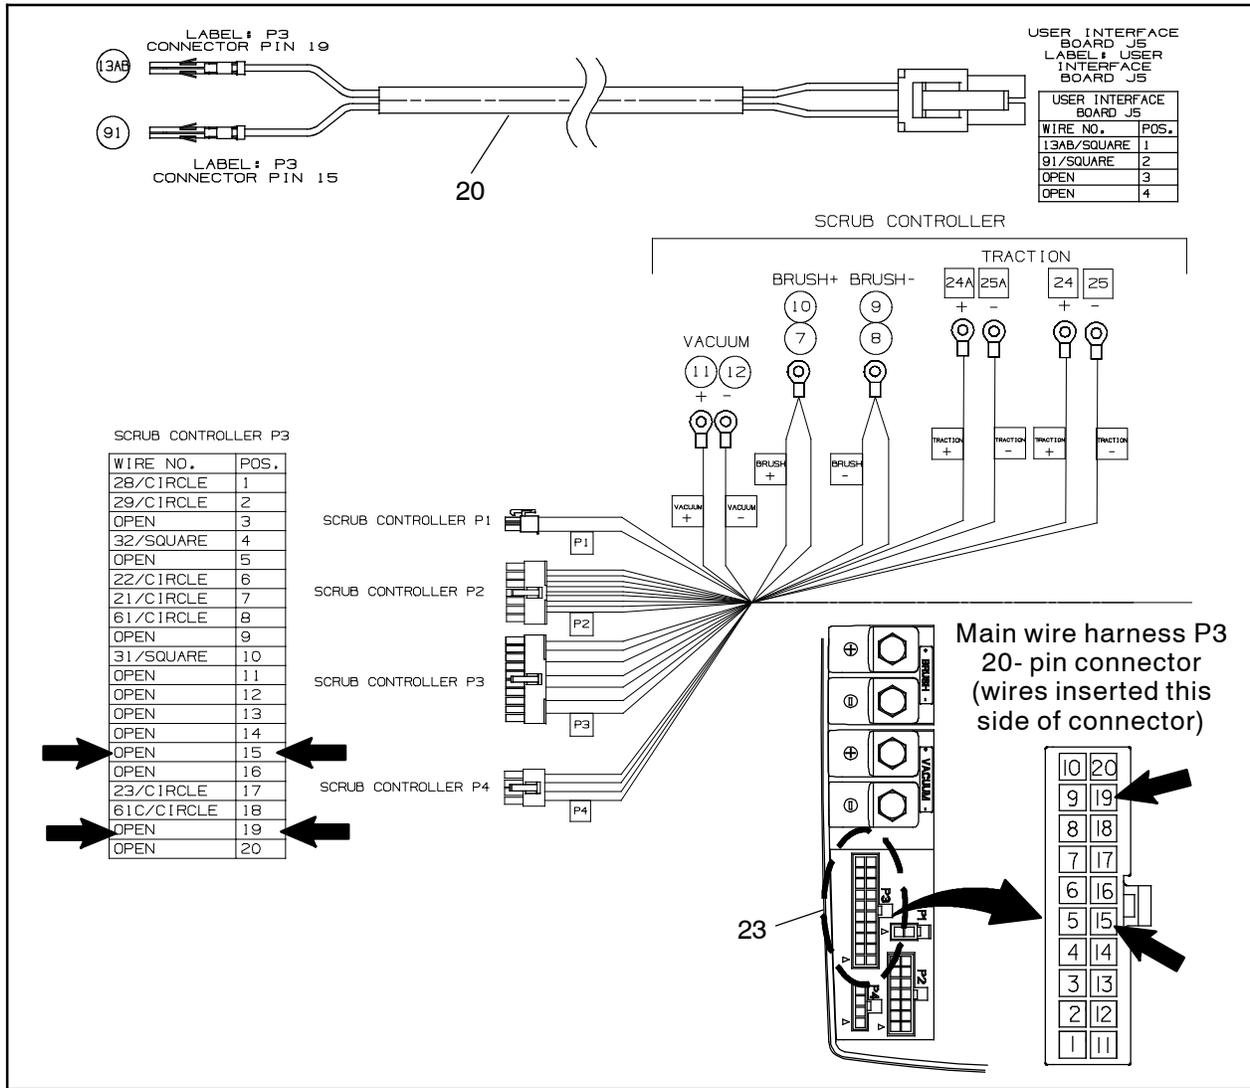

FIG. 8
2. Connect the leg electric harness (20) to the main wire harness P3 20-pin connector terminals 15 and 19. (Fig. 8/Fig. 10)